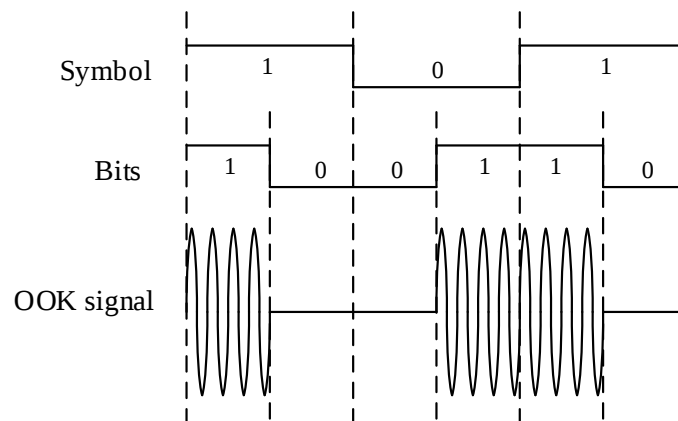

Figure 7.3-3 Manchester encoding
125K is able to check the input match value. The match value must be in Manchester code form. In Manchester code, each "symbol" consists of two "bits" (bit 1-0 for symbol 1 and bit 0-1 for symbol 0). Figure 7.3-3 shows Manchester encoding process of 3 symbols (101). In a Manchester-encoded bit stream, three consecutive 0s or 1s are not possible, which helps to recover the clock signal.